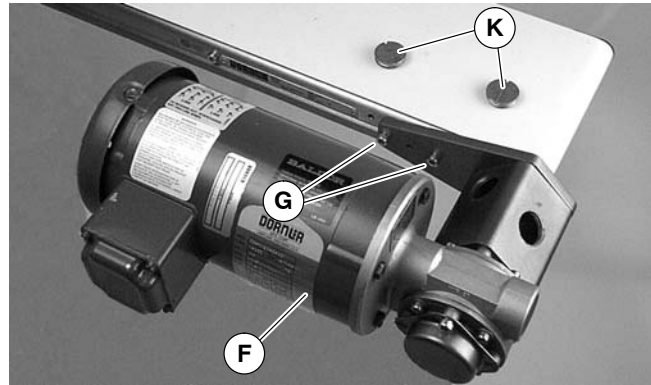

Figure 15
5b. Remove inspection plugs (K of Figure 15).
6b. Slide coupling over drive output shaft and install drive assembly (F of Figure 15) with screws (G). Tighten to 80 in-lb (9 N-m).
8b. Replace inspection plugs. (K of Figure 15).
1. Remove inspection plugs (K of Figure 15).
3. Remove two (2) screws (G of Figure 15). Remove drive assembly (F).